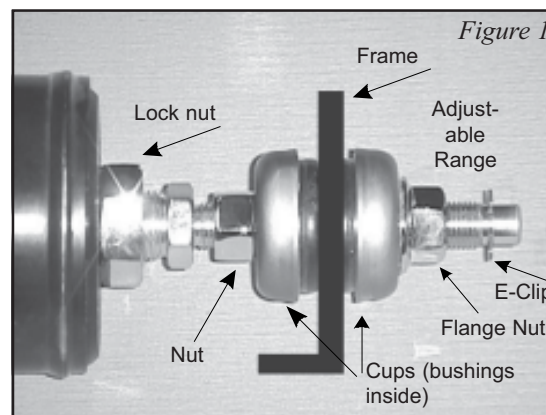

Figure 2
- Spring preload is set by us to the lightest setting. To increase preload for heavier riders/loads/passengers, loosen locknut with the inside portion of the supplied wrench or a 1-1/16" wrench and back it off several turns. Use the supplied wrench or a Harley adjustment wrench to turn the adjustment nut counterclockwise to the desired preload setting. Then tighten the 1-1/16" lock nut. Both shocks must be adjusted to the same, equal setting (See Figure 2).